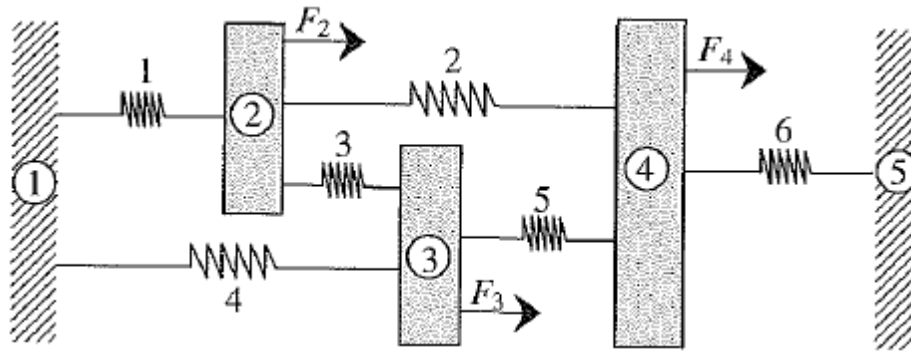

Figure P1.12
12. Find the displacements of the rigid bodies in **Figure P1.12**. Assume that the only non-zero forces is $F_3 = 1000$ N. Determine the element forces in the springs. What are the reactions at the walls? Assume the bodies can undergo only translation in the horizontal direction. The spring constants are $k_1 = 500$ N/mm, $k_2 = 400$ N/mm, $k_3 = 600$ N/mm, $k_4 = 200$ N/mm, $k_5 = 400$ N/mm and $k_6 = 300$ N/mm.